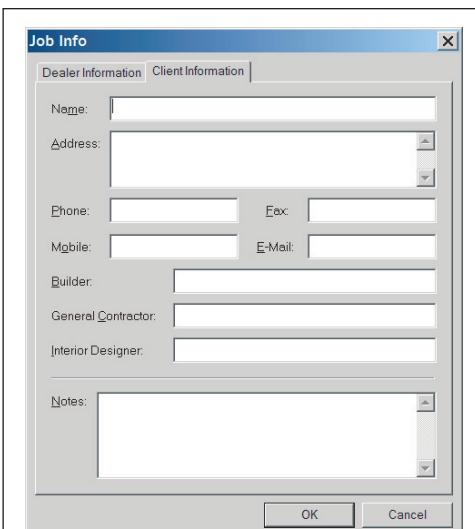

Figure 36:
- The CLIENT tab (*Figure 36*) gives you a place to record your client's contact information, along with information about the general contractor, interior designer, etc. Like the